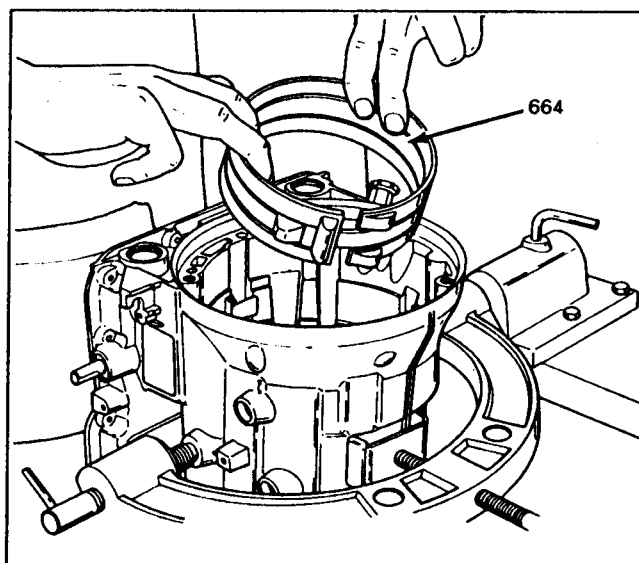

Figure 49
21. Remove the 1-2 brake band, as shown in Figure 49.